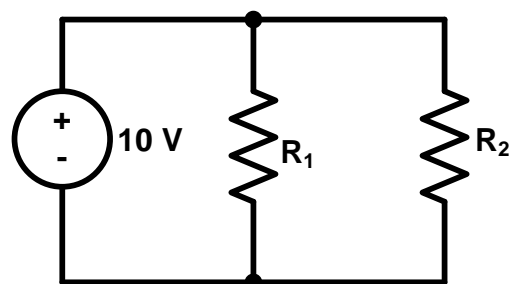

Figure 13: The circuit for Part B.
- 3) Connect the circuit in **Figure 13**.